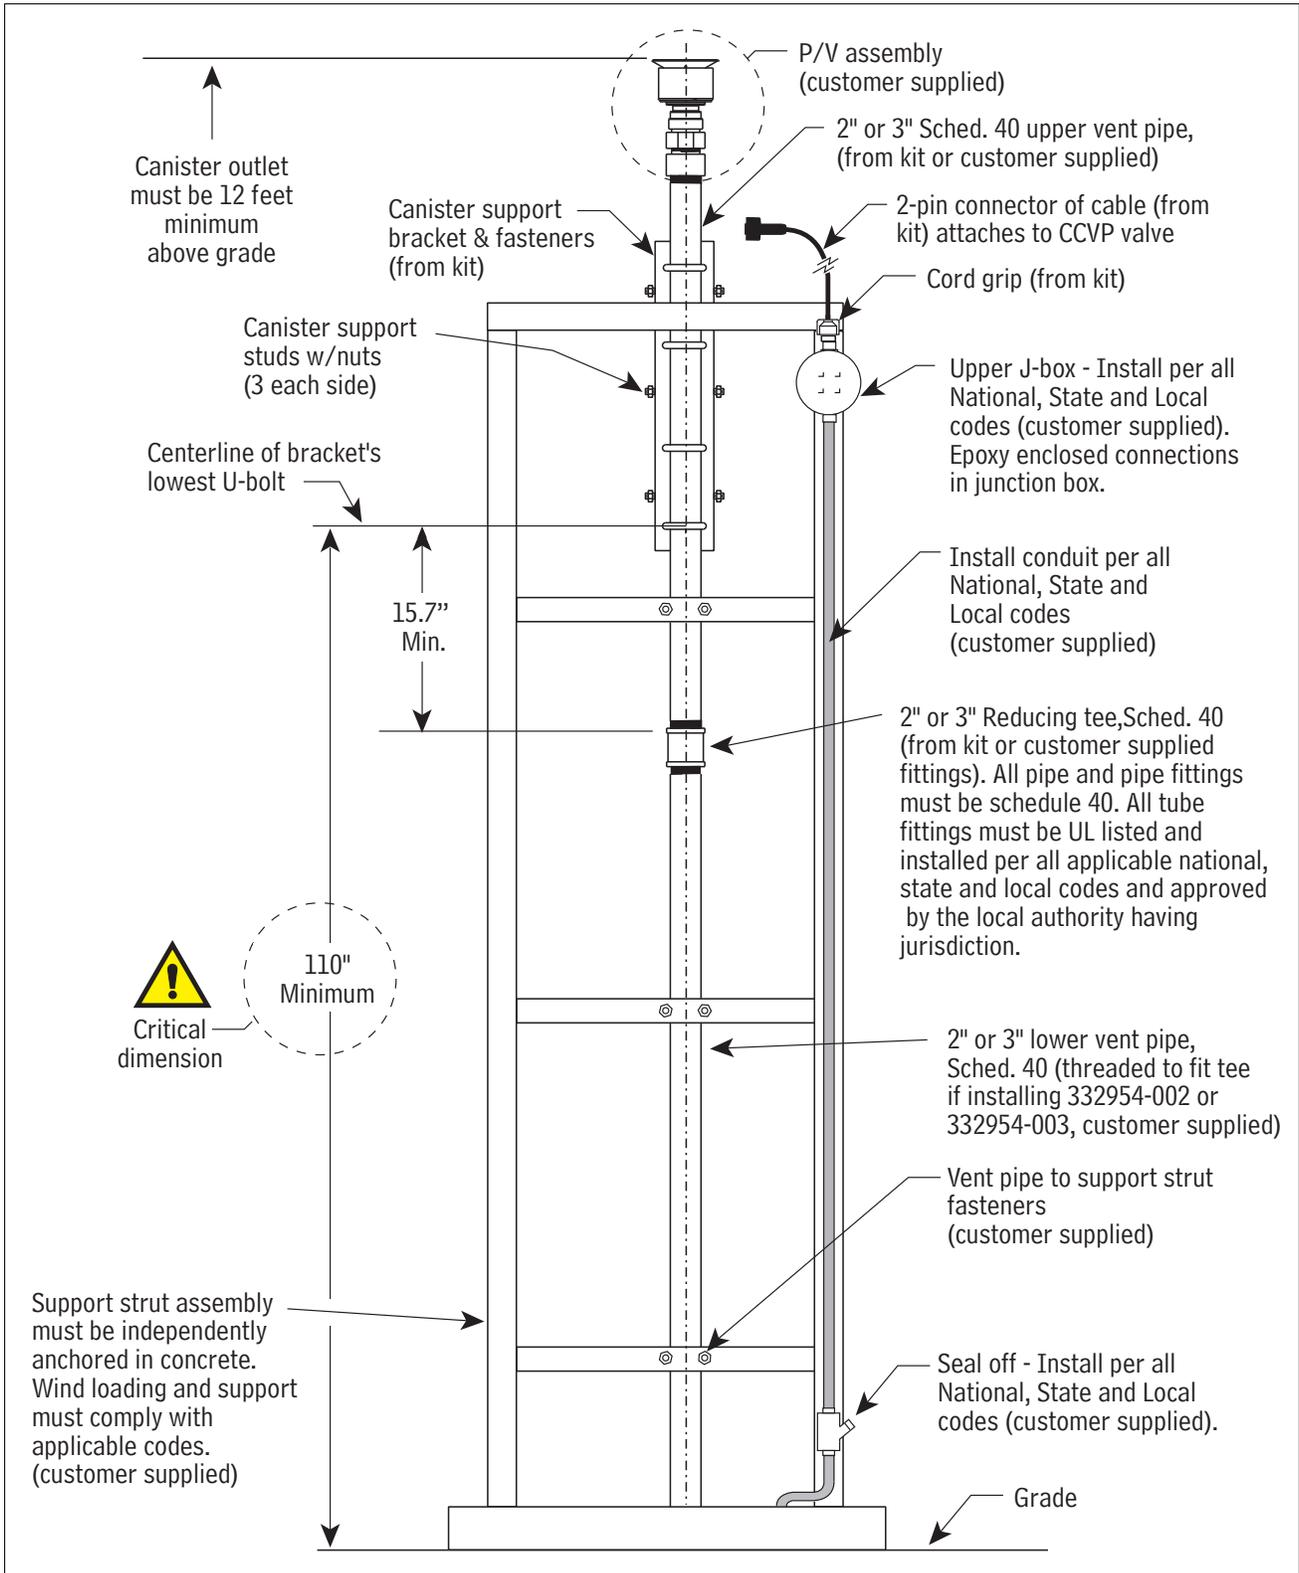

Figure 1. Typical direct wired installation example
6. **IMPORTANT! To ensure that the canister outlet is 12 feet (minimum) above grade, the CCVP mounting bracket must be positioned according to dimensions shown in Figure 1 and the U-bolts tightly clamped to the support structure before mounting the canister. The mounting bracket must be centered in line with the outlet of the tee before installing the CCVP.**
9. Install weather tight junction box, seal off and conduit per all NEC, State and local codes (see example installation in Figure 1).